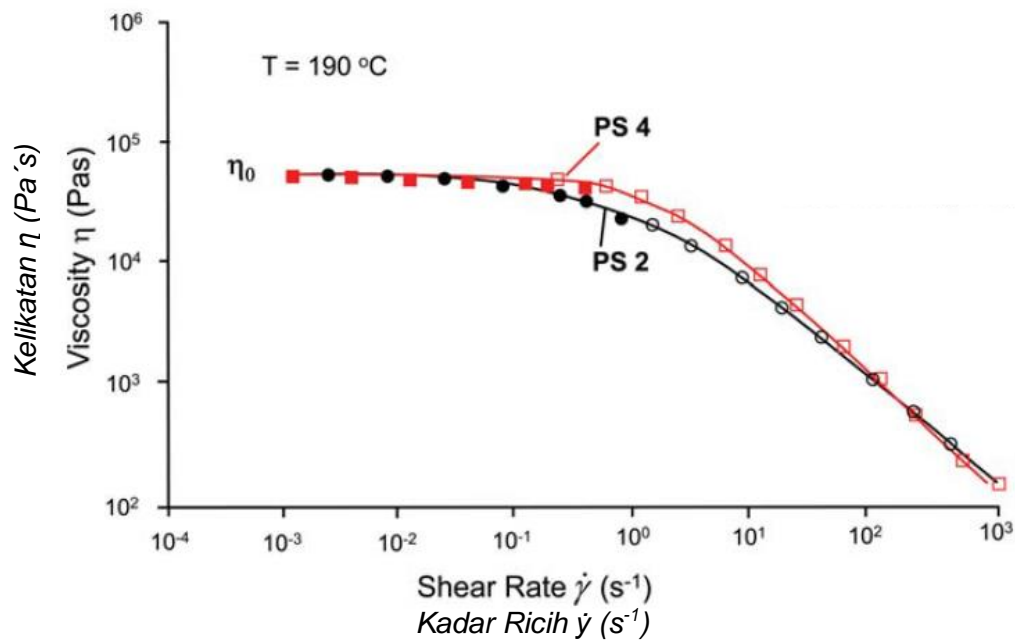

Figure 5: Viscosity functions of two polystyrenes. Open symbols: rotational rheometer, closed symbols: capillary rheometer
- (6). (a). Figure 5 shows the variation of viscosity with shear rate for two different polystyrenes (PS). Describe the trend observed and suggest possible reasons for the trends?
*Gambarajah 5 menunjukkan perubahan kelikatan dengan kadar ricih bagi dua polistirena (PS) yang berbeza. Perihalkan aliran yang diperhatikan dan cadangkan sebab yang mungkin bagi aliran tersebut?*